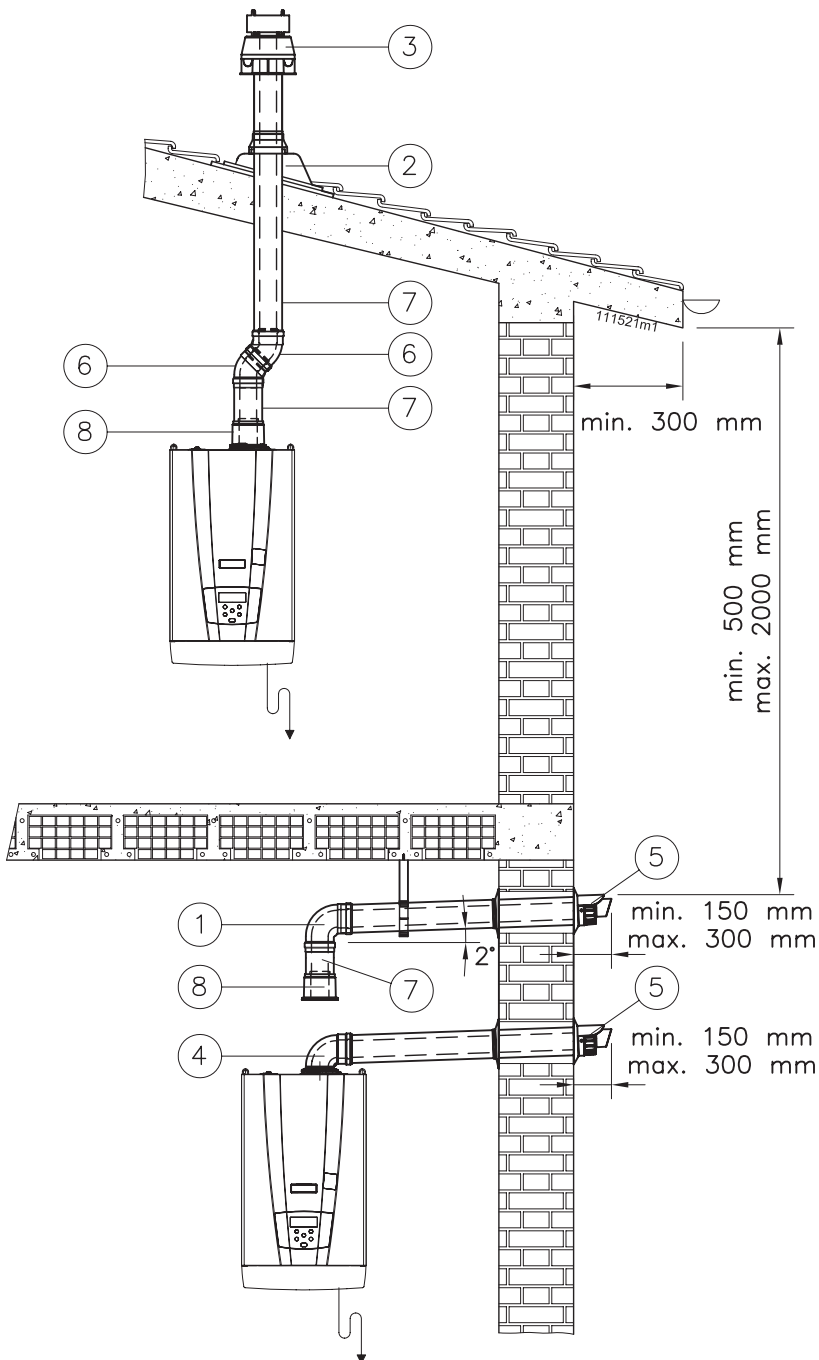

Figure 5-30 - Examples of coaxial pipe installations
**ATTENTION !!!** Once these operations have been performed, check that the exhaust/intake terminal is exposed to the outdoors with the tolerances given in figure 5-30.
When a coaxial exhaust is made (see figure 5-30), both vertical and horizontal, the exhaust pipe slope upwards in a way to make the condensate flow into the appliance.
**ATTENTION !!!** The horizontal terminal must be protected against the accidental return of rain water. To do this, gables must be installed (or projections or balconies or relevant protections ) with the minimum dimensions given in figure 5-30